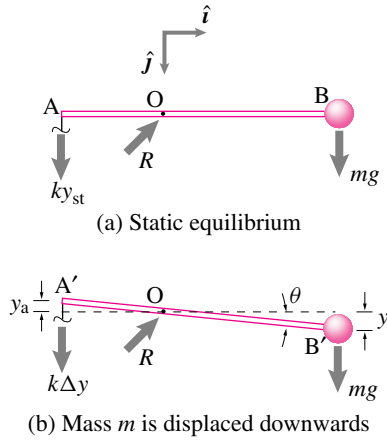

Figure 16.79: Free-body diagrams
1. **Static Equilibrium:** The FBD of the (rod + mass) system is shown in Fig. 16.79. Let the stretch in the spring in this position be y_{st} and the relaxed length of the spring be ℓ_0 . The balance of angular momentum about point O gives: